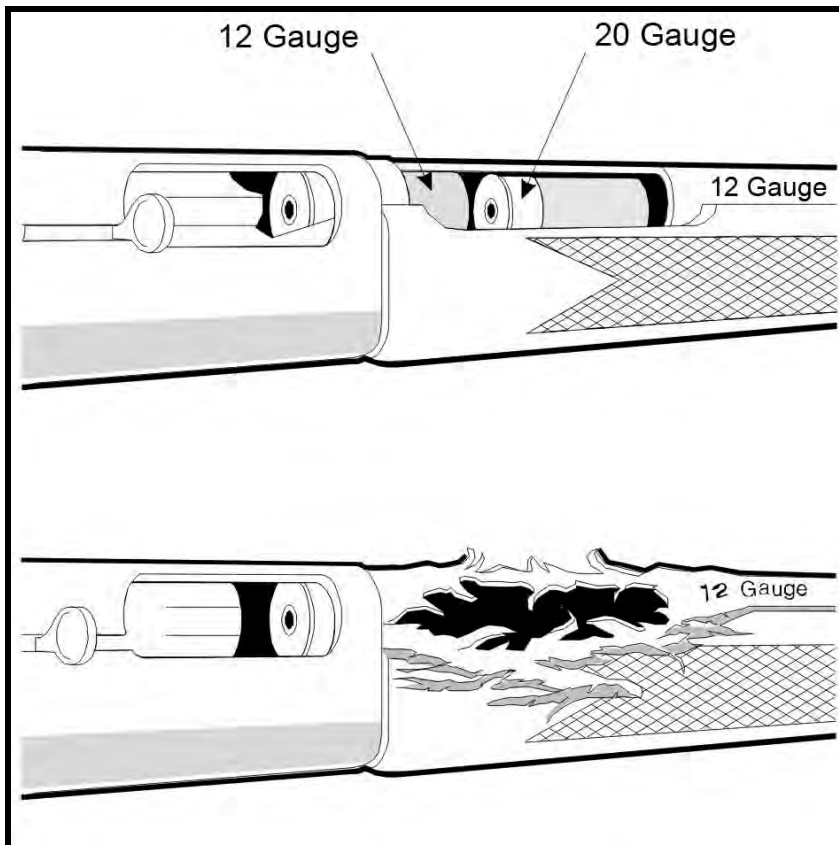

Figure 36. Exploded Chamber
**Do not attempt to use longer ammunition than indicated on the barrel data stamp. If you do, the barrel might burst (Figure 36).**
**Serious injuries may occur when hunters or shooters load the wrong ammunition into their firearms. An easy mistake to make is loading and chambering a 20-gauge shotgun shell into a 12-gauge shotgun. The small shell will slide through the chamber and stick in the forcing cone. Users may then insert a 12-gauge shell behind the 20-gauge shell. When fired, the barrel may burst (Figure 36). Burst barrels scatter metal. People have been seriously injured or killed by this error.**